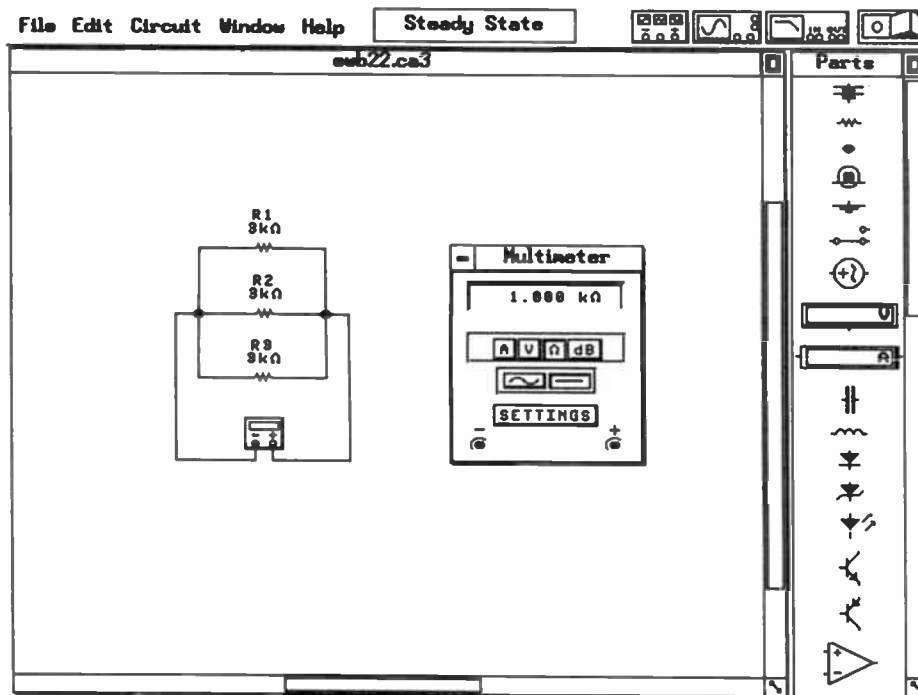

Fig. 1.20. Circuit for assignment 1.3 (measuring parallel resistance).
4. Connect the circuit shown in Fig. 1.20. Set each resistor to a value of "3kΩ". Set the multimeter to read "Ω" and "d.c."